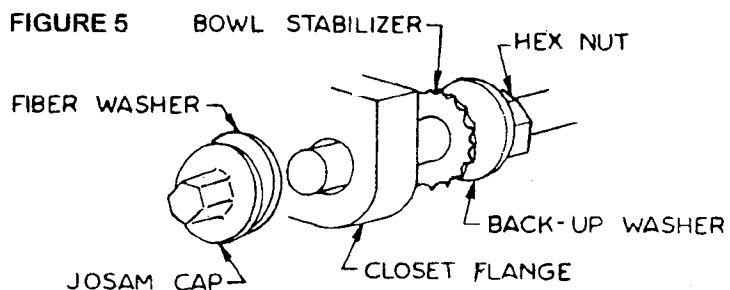

FIGURE 5
6. Remove nuts and washers from Hardware Group FH. Place a hex nut, backup washer and bowl stabilizer on each mounting stud. Adjust these parts with front of backup washer at surface of finished wall. See Figure 5.
7. Place fixture outlet gasket into fixture outlet gasket groove and hang fixture. Assemble fiber washers and Josam cap nuts to the two studs on the center line of the fixture outlet and on one other stud. Tighten with wrench. Assemble fiber washer and Josam cap nut to remaining top stud. Hand-tighten and then tighten an additional 1/2 turn with wrench. See Figure 5.